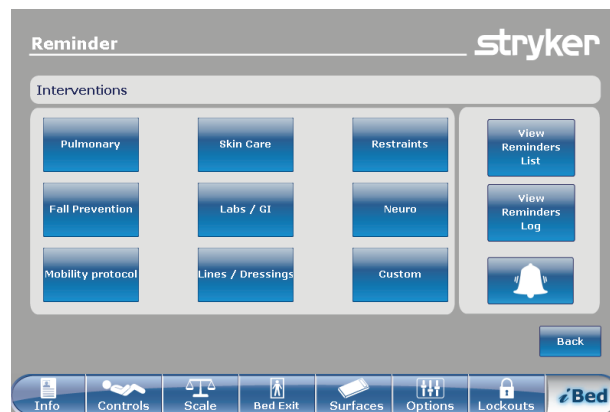

Figure 95: Reminder interventions
To return to the **iBed** main menu, tap **Back** (Figure 95 on page 84).
2. Tap the intervention group (Figure 95 on page 84).